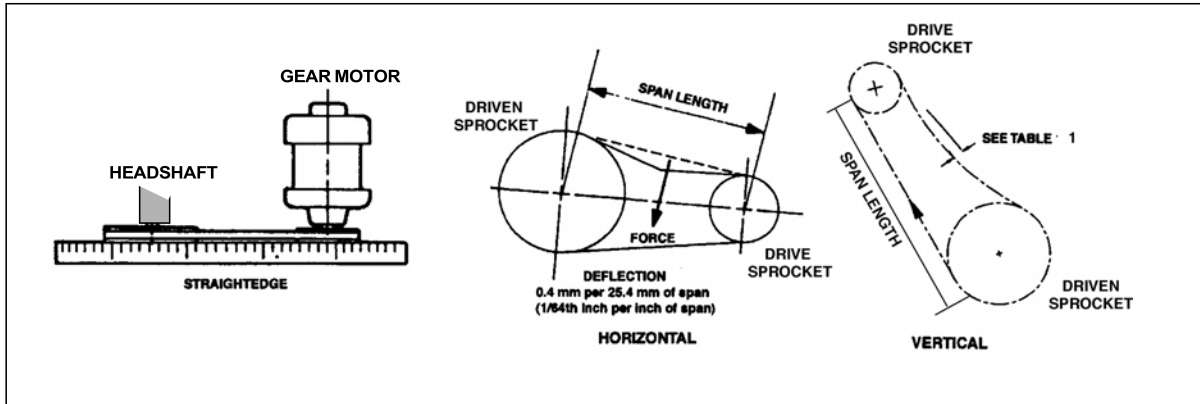

Figure 3. Gearmotor Alignment and Drive Chain Tension Adjustment
1. Using the gearmotor mounting bolts, tension the drive chain according to Figure 3 and Table 1. Check sprocket alignment using a straight edge or taut cord stretched across the faces of the drive sprocket and the driven sprocket (Figure 3). The tolerance is 1/8" per foot ( $\pm 0.5$  degrees or 3.5 mm per 0.3 m).